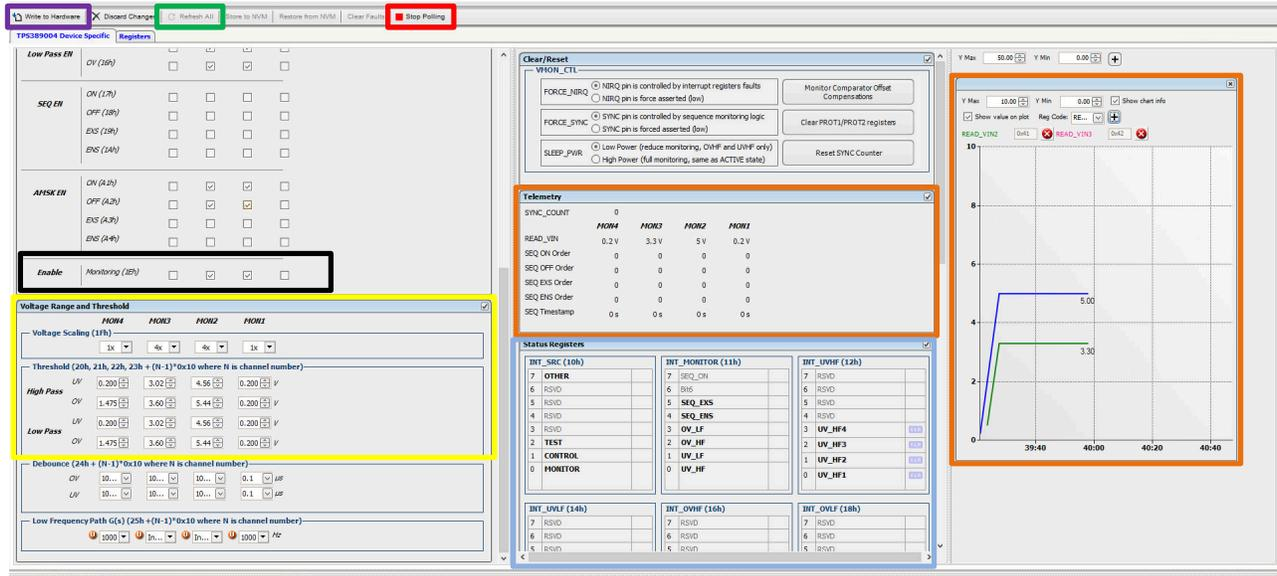

Figure 2-5. TPS389C03EVM GUI Setup for Monitoring Two Voltage Supply Rails
15. If the user wants to adjust the under voltage (UV) and over voltage (OV) threshold values, then locate the *Voltage Range and Threshold* sub-window (shown in the highlighted yellow-box). Use the boxes located in this sub-window to select the desired voltage thresholds. One note is that any monitoring inputs that are higher than 1.5 V, select *4x* in the *Voltage Scaling (1Fh)* field. Once the desired monitor thresholds are set, press *Write to Hardware* and the USB Interface Adapter communicates to the TPS389C03-Q1 IC.
17. Steps 10 through 15 refer to Figure 2-5 below.